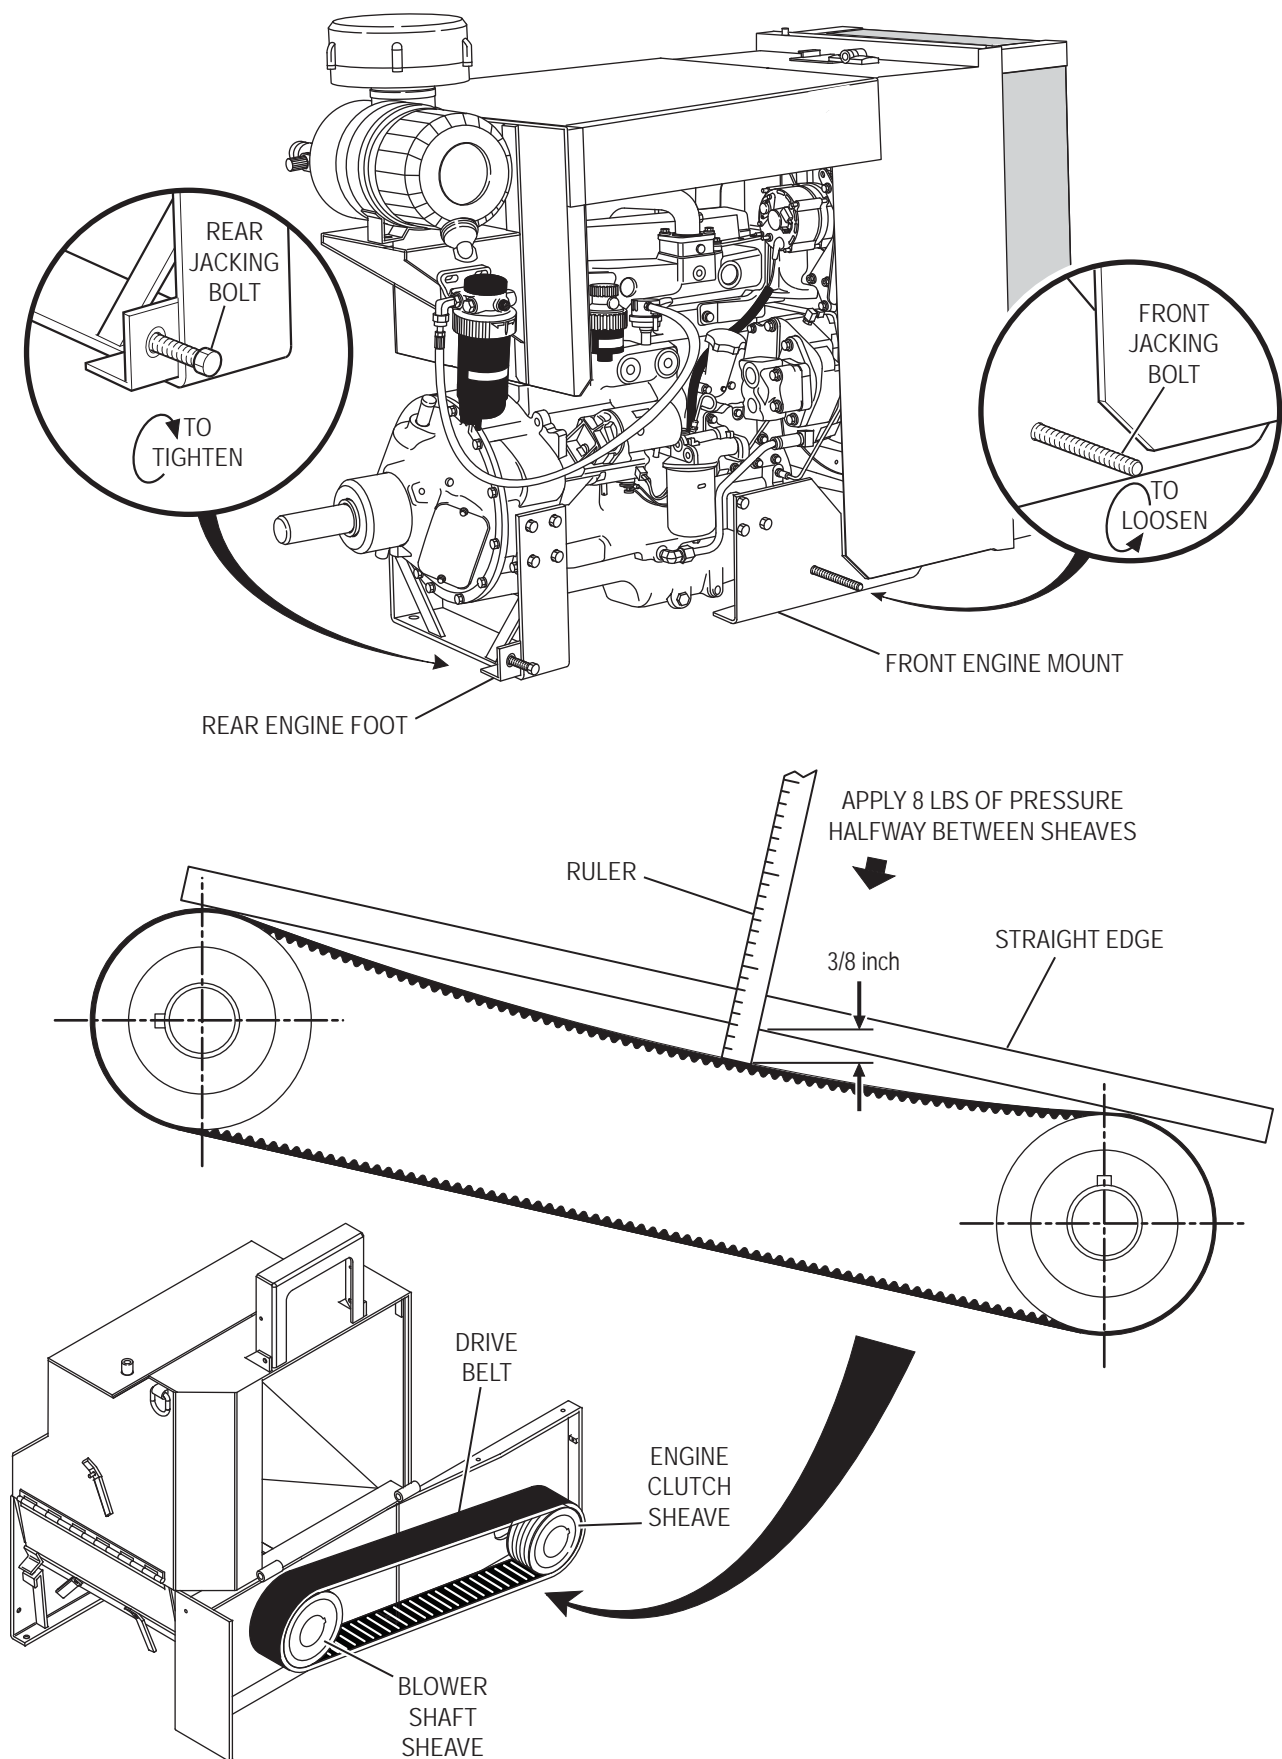

Figure 8 - Adjusting the Drive Belt
2. Position a straight edge across the belt, starting from the BLOWER SHAFT SHEAVE and extending across the top of the ENGINE CLUTCH SHEAVE (see Figure 8).